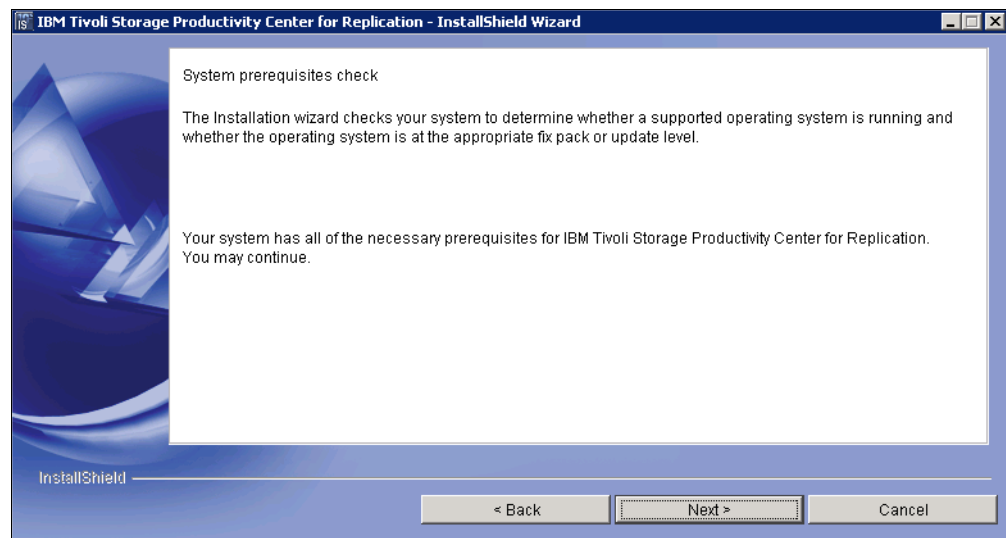

Figure 12-30 System prerequisites check
10. To perform a prerequisites check, click **Next** (Figure 12-30).